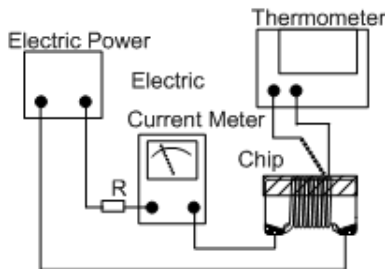

Fig.5.3.5-1 1
- d. Definition of Rated Current (I_r): I_r is direct electric current as chip surface temperature rose just 20°C against chip initial surface temperature (T_a) (see **Fig. 5.3.5-2**).